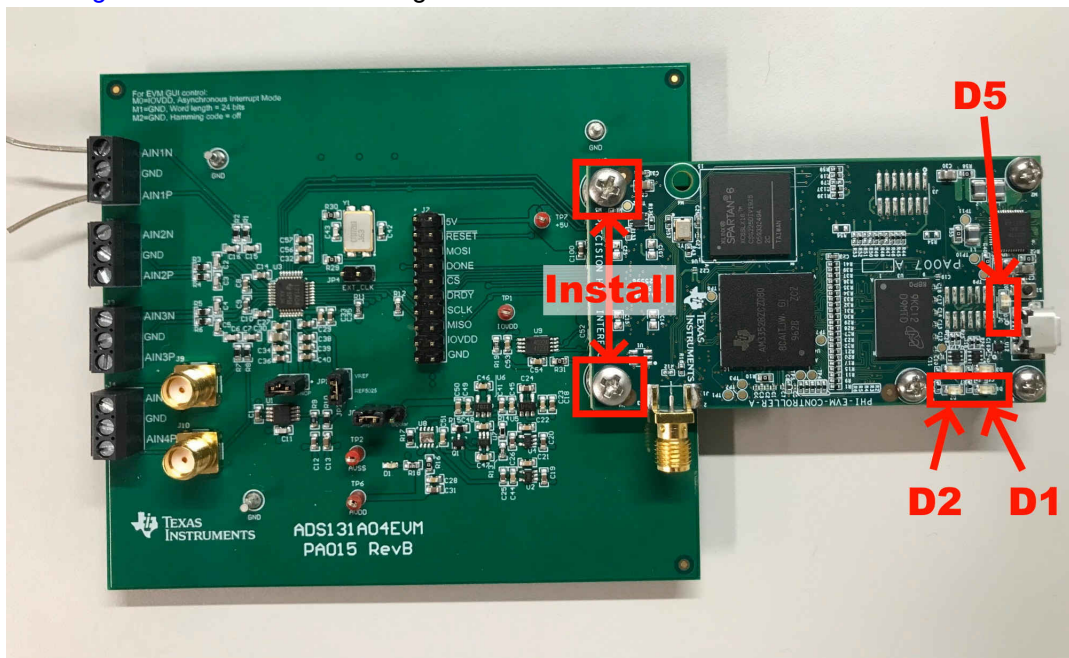

Figure 2-1. ADS131A04EVM Hardware Setup and LED Indicators
2. Connect the ADS131A04EVM to the PHI. Install the two screws as indicated in Figure 2-1.
- b. LEDs D1 and D2 on the PHI start blinking to indicate that the PHI is booted up and communicating with the PC. Figure 2-1 shows the resulting LED indicators.